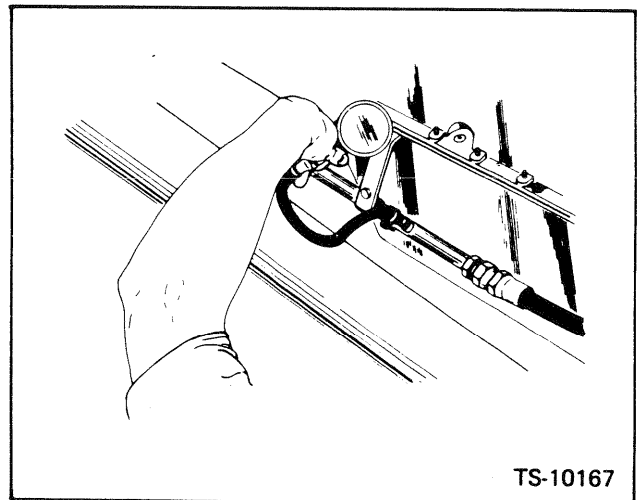
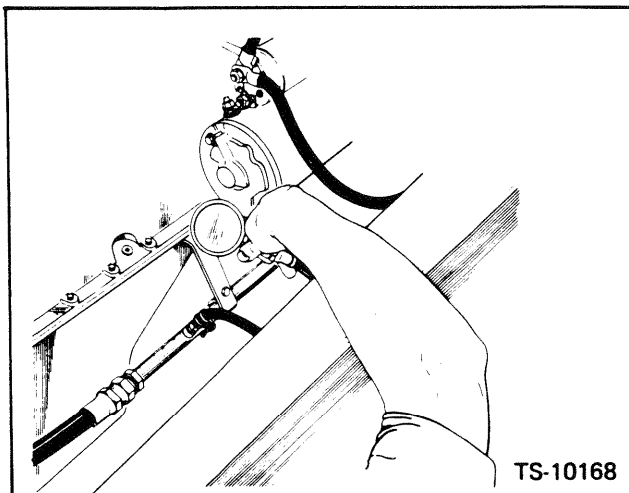

Fig. 8-2 Oil cooler "OUT" pressure check.
Fig. 8-3 Oil Cooler in Pressure Check
1. Install a tachometer on the engine (Disregard this operation if the machine is equipped with a tachometer). Install a gauge at the oil cooler IN pressure check point located on the oil cooler supply tube on the left side of the engine compartment. Fig. 8-3. Install a gauge at the oil cooler OUT pressure check point located on the oil cooler supply tube on the right hand side of the engine compartment. Fig. 8-2.